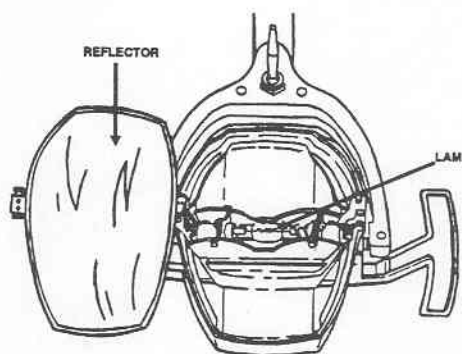

Figure 1-2. Lamp and reflector.
d. *Lamp (fig 1-2).* The lamp is a miniature quartz-halogen lamp which uses a self-cleaning process that maintains constant light intensity throughout its life. The lamp is easily replaceable without tools.
e. *Reflector (fig 1-2).* The dichroic coated reflector directs the desired visible light and allows unwanted light and heat to pass through the reflector. The reflector collects light from a wide angle and produces a high intensity and glare-free light pattern.